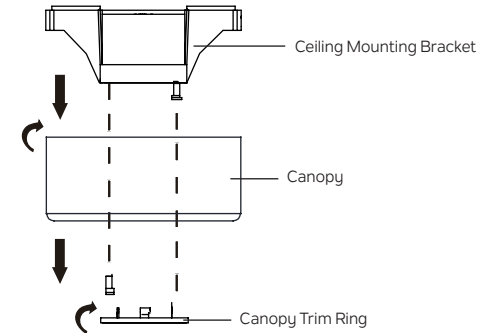

Fig. 5
Step 1. Remove the canopy trim ring from the canopy by turning the canopy trim ring counter clockwise. (Fig. 5)
Step 2. Remove the ceiling mounting bracket from the canopy by removing and saving one of the two screws. Loosen the remaining screw by a half turn. (Fig. 5)
Step 3. Align the remaining circular hole in the canopy with the remaining hole in the ceiling mounting bracket. Reinstall the screw you removed earlier (HANGING THE FAN, Step 2/Fig. 5) into the aligned holes. Tighten both screws to secure. Attach the canopy trim ring to the screw heads by inserting the screw heads into the canopy trim ring and rotating the canopy trim ring (clockwise).